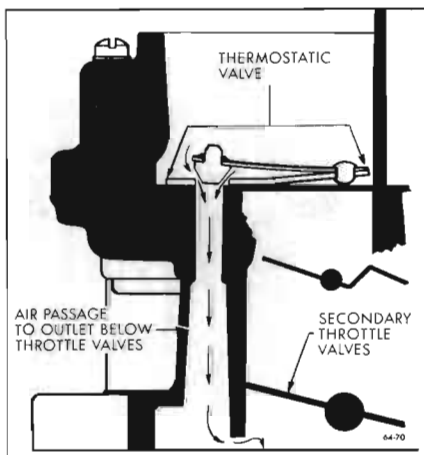

Figure 64-70—Thermostatic Valve Assembly
This allows additional air to flow through a special passage to an outlet below the secondary throttle valves. At normal operating temperatures, the valve should be closed. The thermostatic valve cannot be adjusted or repaired; therefore, a faulty valve must be replaced. See Figure 64-70.
11. Remove thermostatic valve and gasket. See Figure 64-70.
3. Install thermostatic valve using new gasket. See Figure 64-70.